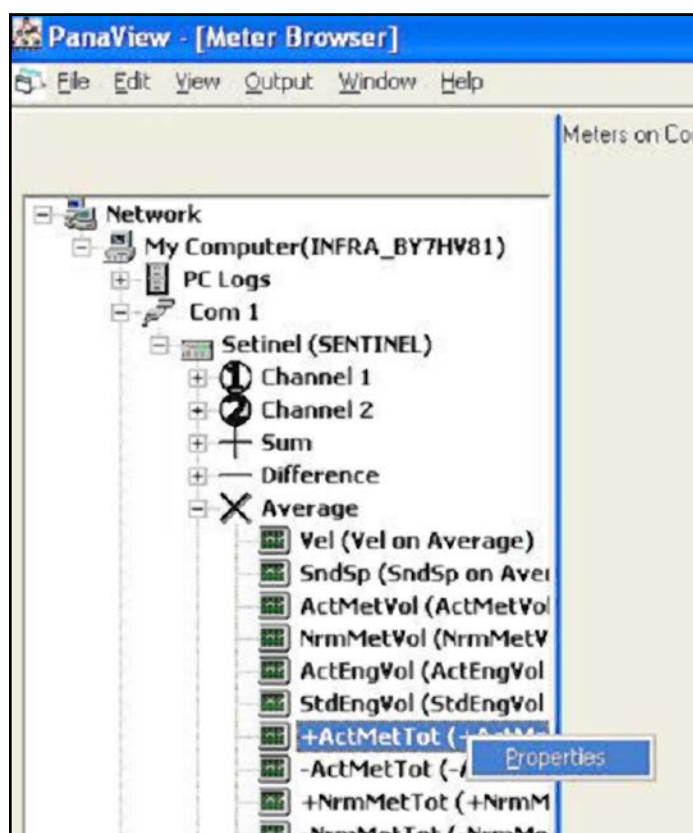

Figure 66: The Meter Browser Window
- Only the PanaView *Meter Browser* window can be used to reset the totalizers (see *Figure 66* on page 77).